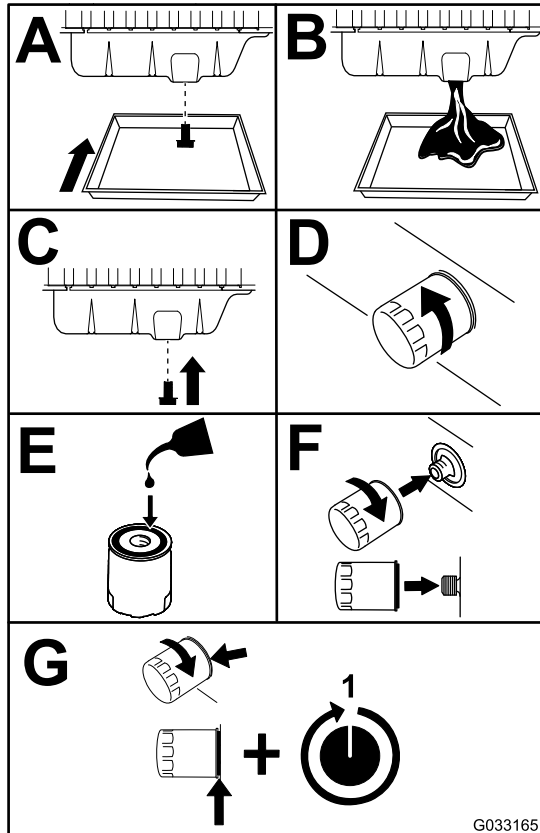

Figure 50
3. Replace the engine oil and filter (Figure 50).